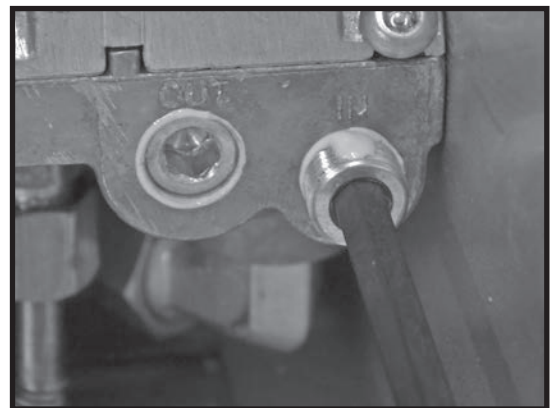

Figure 44: Testing port caps with thread sealant.
6. After testing is finished turn off gas supply, remove the pressure guages, apply thread sealant to cap ends and re-tighten (Figure 44).